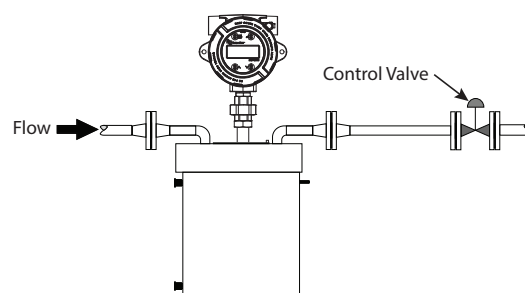

Figure 17: Control valve location
- Mount control valves downstream of the flow meter to prevent possible cavitation, especially when measuring liquids with low boiling points (see Figure 17).